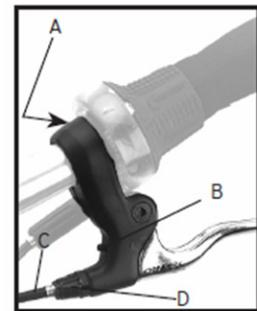

Figure 26- Lever clamp bolt, mountain lever
1. Locate the reach adjustment screw (Figure 26) and turn. *To decrease the reach, turn the screw in (clockwise). To increase the reach, turn the screw out (counter-clockwise).*